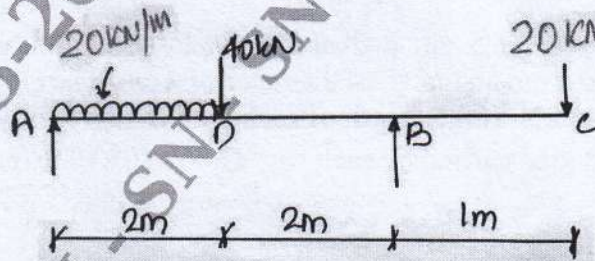

Fig. Q8
- 8 Draw BMD and SFD for overhanging beam shown in the Fig. Q8. Clearly indicate the point of contraflexure. (20 Marks)